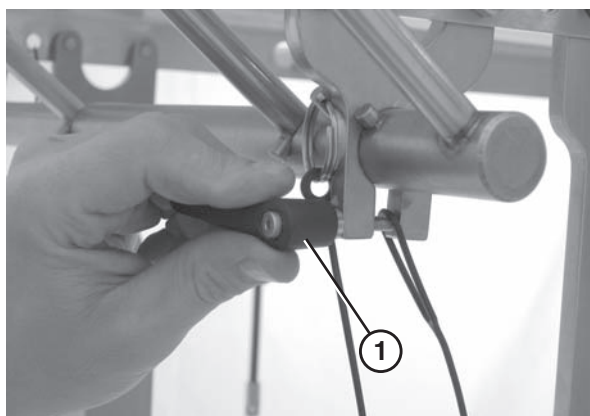

Figure 32
8. Secure the scraper by tightening the handle (Figure 32, item 1).